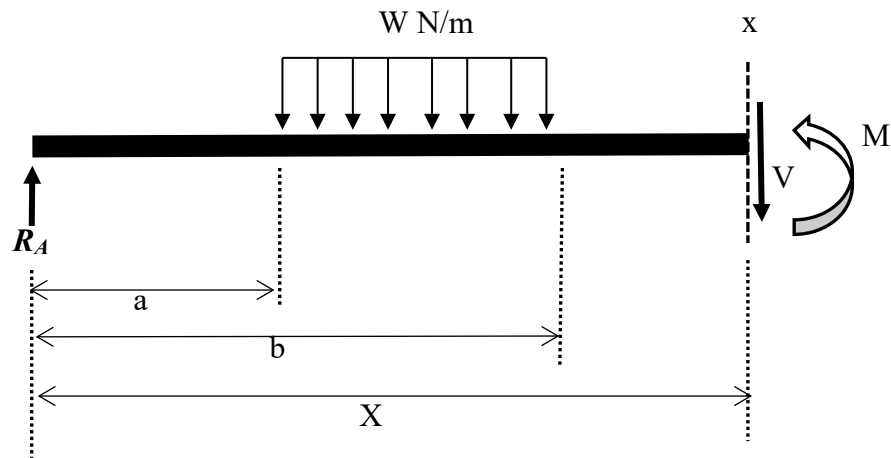

Figure B4(a) / Rajah B4(a)
- (a) A simply supported beam is subjected to a uniformly distributed load W N/m in the middle of the span as shown in Figure B4(a). Using Macaulay Method procedure, show the moment equation, $EI \frac{d^2y}{dx^2}$ when the beam cut at $x-x$.